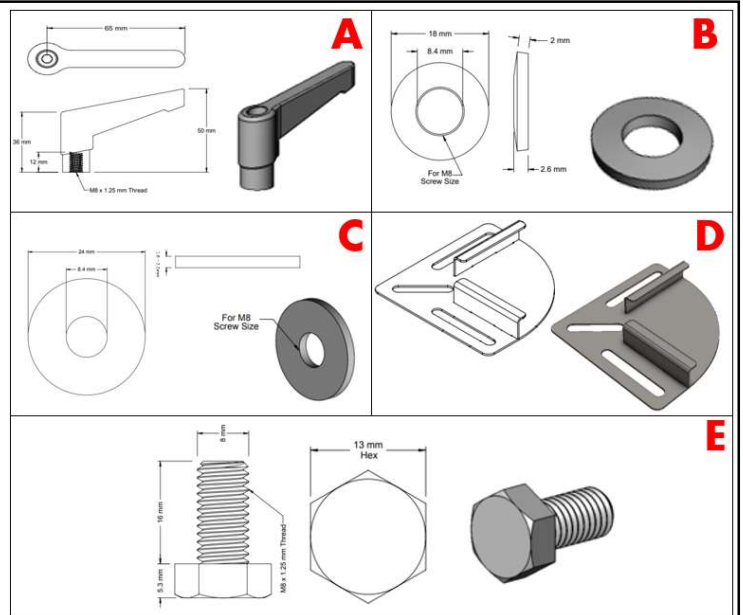

Fig. 1
1. Hardware Components | See Figure 1.